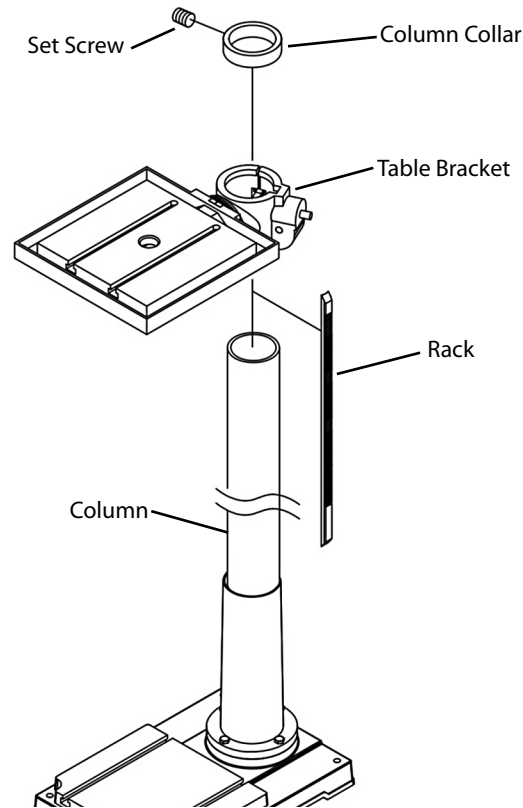

Figure 3 - Mount table assembly to column.
2. Loosen the set screw, remove column collar and gear rack from the column. Place rack inside table bracket; slide the table assembly with rack down together onto the column. Place the column collar down over the rack. Tighten the set screw with hex wrench to hold the rack in position (Figure 3).